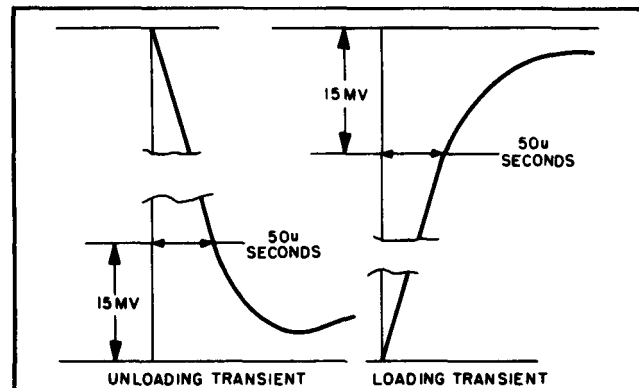

Figure 5-9. Transient Response, Waveforms
- f. Adjust 25 potentiometer until a stable display is obtained on oscilloscope. Waveform should be within the tolerances shown in Figure 5-9 (output should return to w within 15mV of original value in less than 50 microseconds).